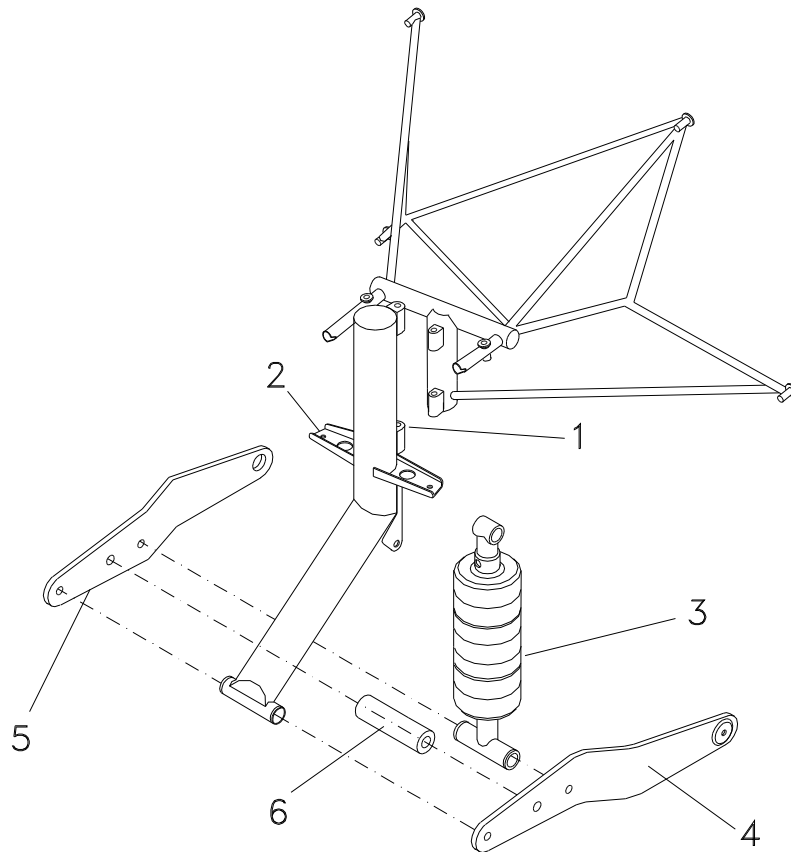

FIGURE C-17 NOSE LANDING GEAR LEG
The nose gear (fig. C-17) is attached to the engine mount with two hinges (1) and is equipped with a Sava 4.00-6 type tire.